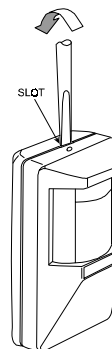

Figure 6. Cover Removal
- A. To open the cover, insert a small screwdriver into the slot on top of the unit (Fig. 6). Press the blade in slightly between the cover and the base and lever backwards. The top part of the cover (equipped with the lens) will snap free.